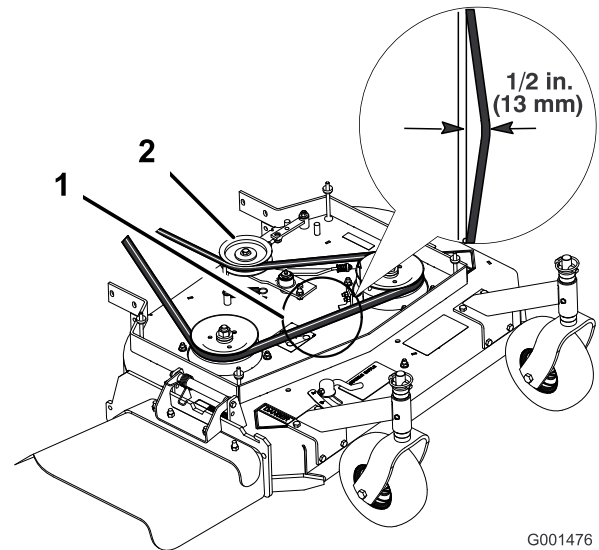

Figure 34
Note: The proper mower belt tension is 10-15 lbf. (44-67 N) with the belt deflected 1/2 inch (13 mm) halfway between the pulleys (Figure 34).
4. Remove the idler pulley and the worn belt (Figure 34).